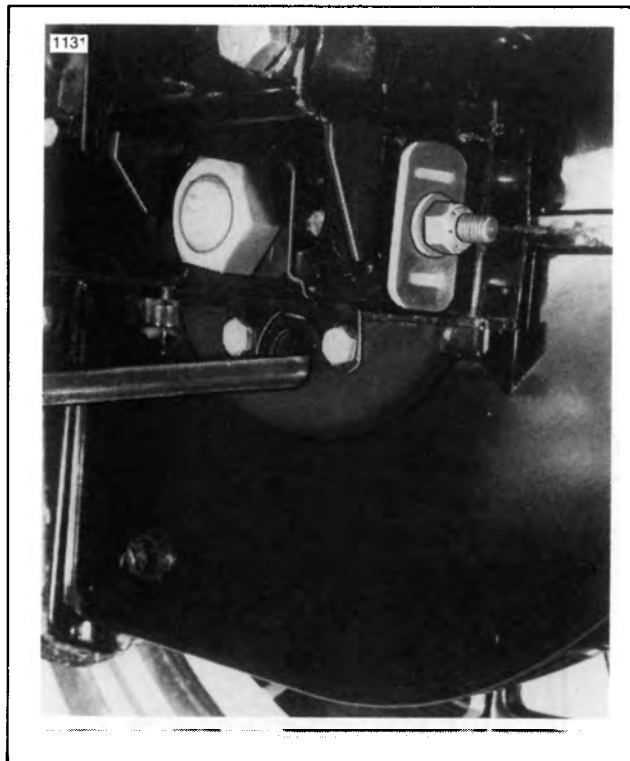

Figure 2-9. Removing Sprocket Screws
3. See Figure 2-9. Remove the plug on the sprocket housing. Remove the sprocket mounting screws using a 3/8 in. Allen wrench or **SPROCKET SCREW TOOL**, Part No. HD-94437-79, and suitable extension for leverage. Remove lower shock bolts and lower wheel to the ground.